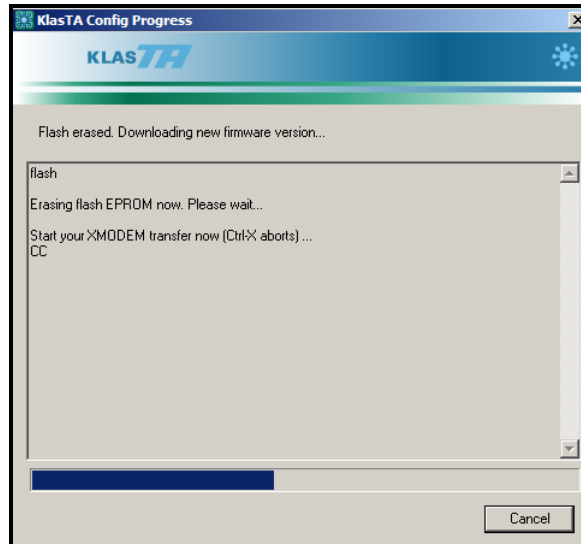
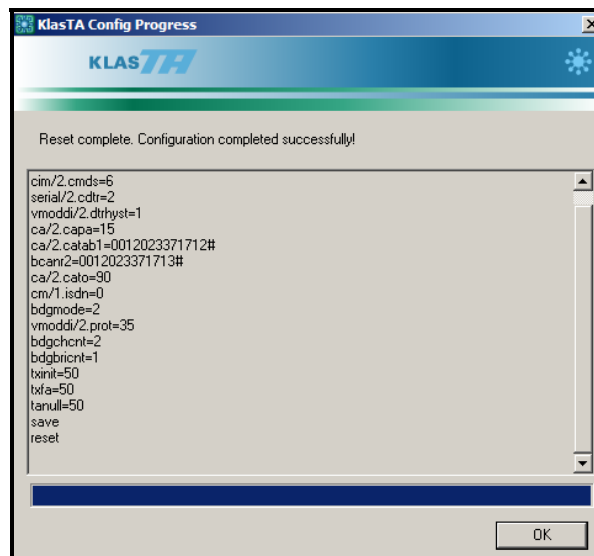

Figure 11. Downloading BM2 Firmware Version
Figure 12. KlasTA Configuration Progress Screen
10. If required, KlasTA may initially erase and reflash the firmware needed to support Bonding Mode 2, as shown in Figure 11. Once the firmware change is complete, the configuration settings will be loaded into KlasTA, as shown in Figure 12. Click on the 'OK' button once the configuration sequence has successfully completed.